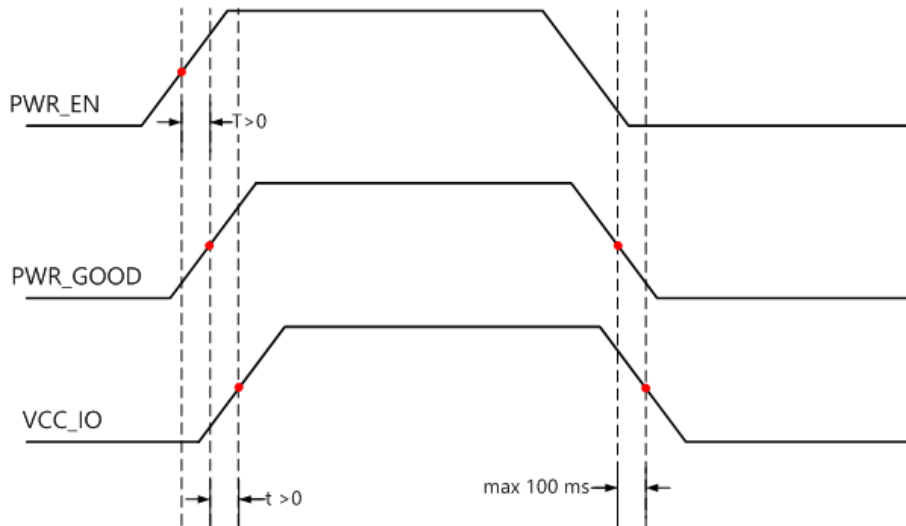

Figure 9: Power-Up Sequence - VCC\_IO in Relation with PWR\_GOOD and PWR\_EN Signals
*Do not power the VCC\_IO pins when PWR\_GOOD and PWR\_EN signals are not active. If the module is not powered, you need to make sure that the VCC\_IO voltages are disabled (for example, by using a switch on the base board, which uses PWR\_GOOD as enable signal). Figure 9 illustrates the VCC\_IO power requirements.*
*Do not power the VCC\_IO pins when PWR\_EN is driven low to disable the module. In this case, VCC\_IO needs to be switched off in the manner indicated in Figure 9.*